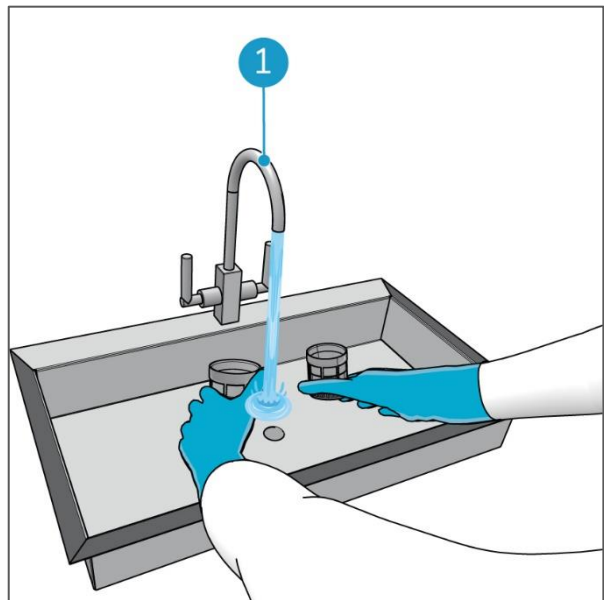

Figure 68
5. Clean the water filter with tap water from the inside outwards. Clean the cover with tap water. Clean both in a sink (Figure 68, pos 1).